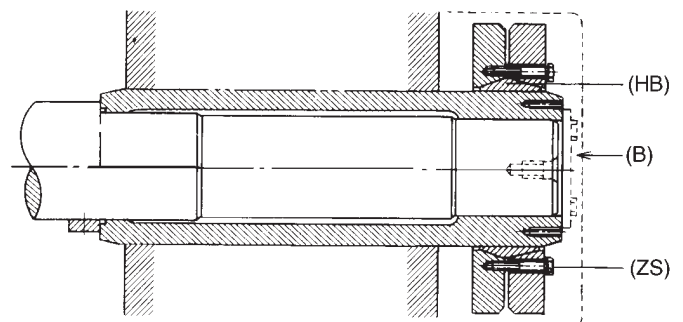

Fig. 6 Full mounted position
The shrink disc has a keyless shrink fit mechanism which shrinks hub (HB) mechanically through the tightening locking bolt (ZS), and holds shaft and hub as one fixture (Fig. 6).
Note 1. In case of a vertical type unit, mount a thrust washer (B) to prevent the reducer from moving when locking nut (ZS) is loosened (Fig. 6).